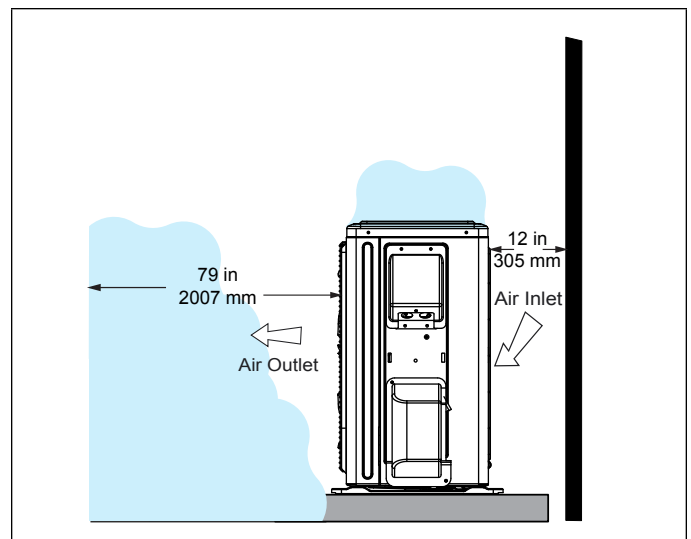

Figure 13. Outdoor Unit Air Flow Obstructed by Snow
- In heavy snow areas, do not place the unit where drifting will occur as illustrated in “Figure 13. Outdoor Unit Air Flow Obstructed by Snow”